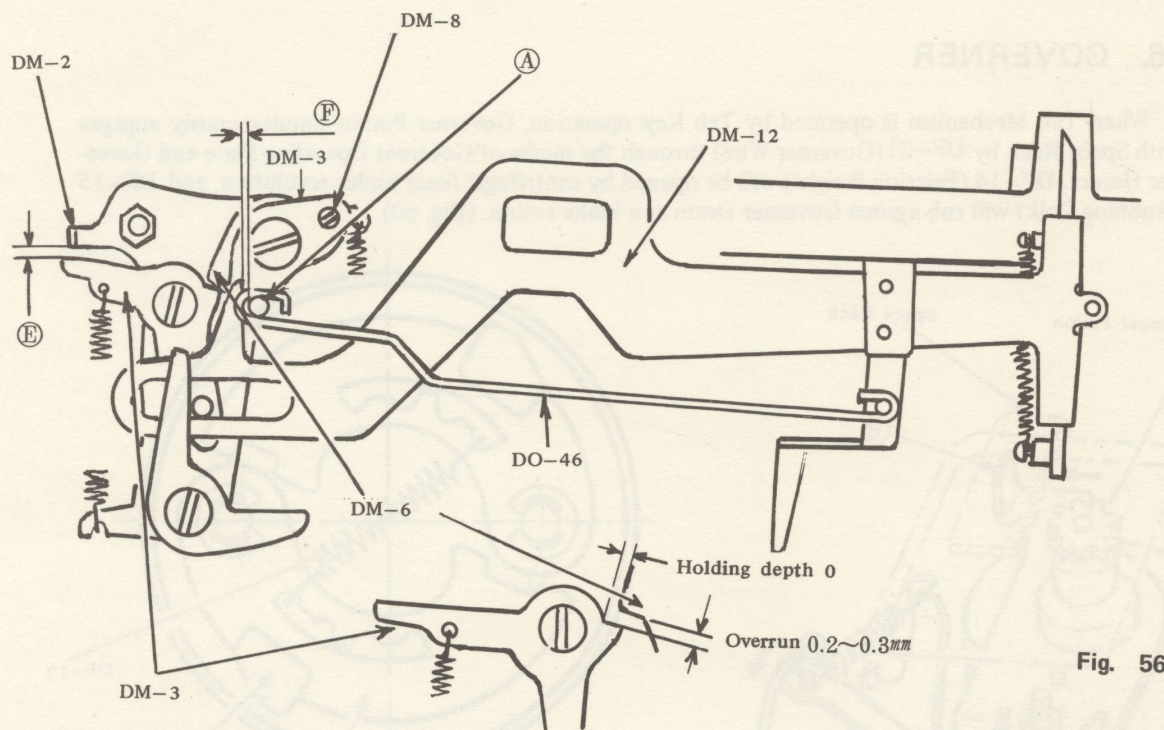

Fig. 56
In this adjustment, make sure that DM-3 will overrun DM-6 (Stopper for DM-3) about 0.2 to 0.3 mm. (Fig. 56)
- (2) Adjust the position of Pin ㉑ of DM-3 by loosening DM-8 (Screw) so that the engagement between DM-3 and DM-6 would be satisfactorily accomplished. (Fig. 56)
- (3) Adjust the clearance ㉕ between Pin ㉑ and DO-46 (Tab Release Wire) as less than 0.2 mm on DM-12 (Tab Stopper Holder) side and 0.05 to 0.3 mm on DO-46 side so that TAB Mechanism will be smoothly released by DR-22 (Tab Pawl) or DR-1 (Margin Stopper: right).
The adjustment will be made by the above paragraph (2) for DM-12 side and bending DO-46 for DO-46 side, but interference between Pin ㉑ and DO-46 at the clearance ㉕ may result insufficient adjustment in the above paragraph (2) and malfunction of TAB operation, therefore positive confirmation should be made for the sufficient clearance ㉕. (Fig. 56)
Be sure the related position between DR-22 and DM-17 (Tab Set Pawl). (Fig. 56, 57)